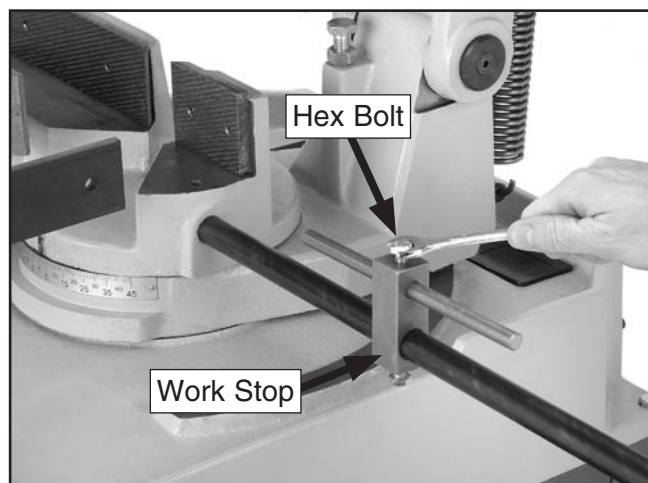

Figure 18. Work stop secured.
9. Slide the work stop onto the work stop rod and secure it by tightening the hex bolt (**Figure 18**).